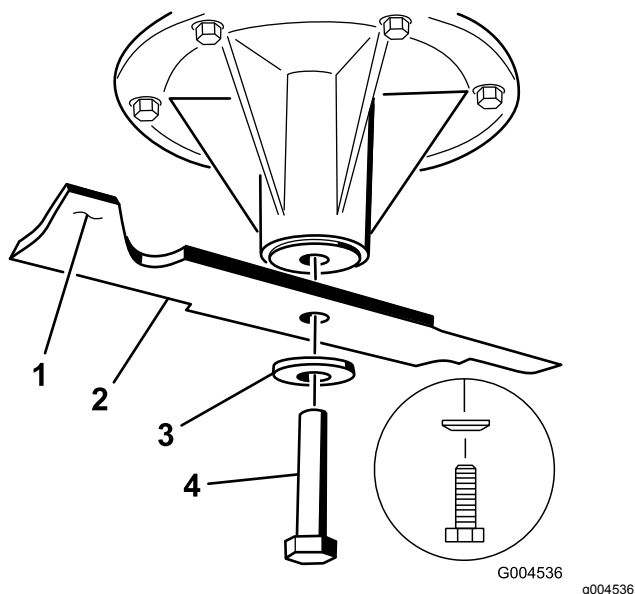

Figure 101
1. Install the blade onto the spindle shaft (Figure 101).
2. Install the curved washer and blade bolt (Figure 101).
Note: The curve of the washer must be installed toward the bolt head (Figure 101).